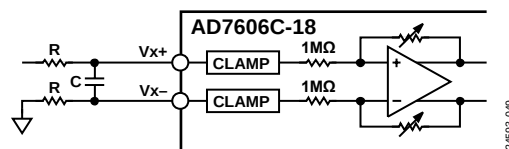

Figure 76. Input Resistance Matching on the Analog Input of the AD7606C-18 for Single-Ended Ranges (V_{x-} Tied to Ground)
It is recommended to place a series resistor on the analog input channels to limit the current to ± 10 mA for input voltages greater than ± 21 V. In an application where there is a series resistance (R) on an analog input channel, V_{x+} , it is recommended to match the resistance (R) with the resistance on V_{x-} to eliminate any offset introduced into the system, as shown in Figure 76. However, in software mode, there is a per channel system offset calibration that removes the offset of the full system (see the System Offset Calibration section).